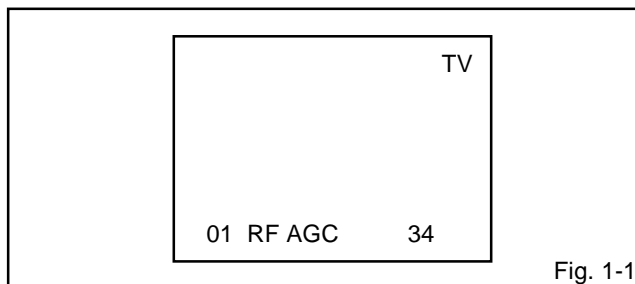

Fig. 1-1
1. In the condition of NO indication on the screen. Press the VOL. DOWN button on the set and the Channel button (**9**) on the remote control for more than 2 seconds to appear the adjustment mode on the screen as shown in **Fig. 1-1**.
4. Activate the adjustment mode display of **Fig. 1-1** and press the channel button (**01**) on the remote control to select "RF AGC".
3. Activate the adjustment mode display of **Fig. 1-1** and press the channel button (**00**) on the remote control to select "CUT OFF".
4. Activate the adjustment mode display of **Fig. 1-1** and press the channel button (**29**) on the remote control to select "M R CUT OFF".